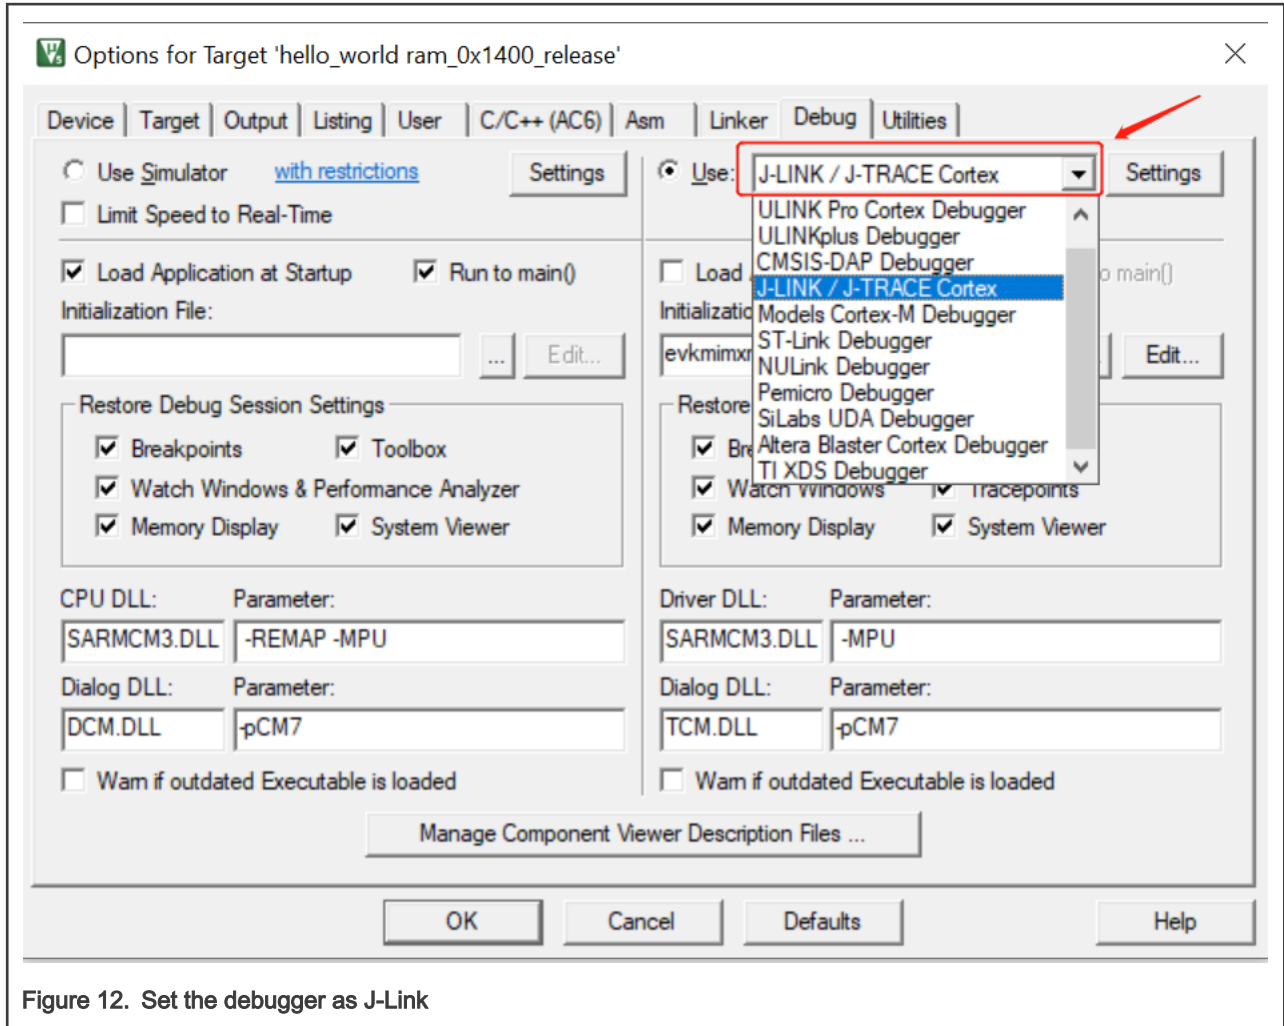

Figure 12. Set the debugger as J-Link
3. In the **Debug** submenu, set the debugger to **J-Link/J-TRACE Cortex**, as shown in Figure 12.